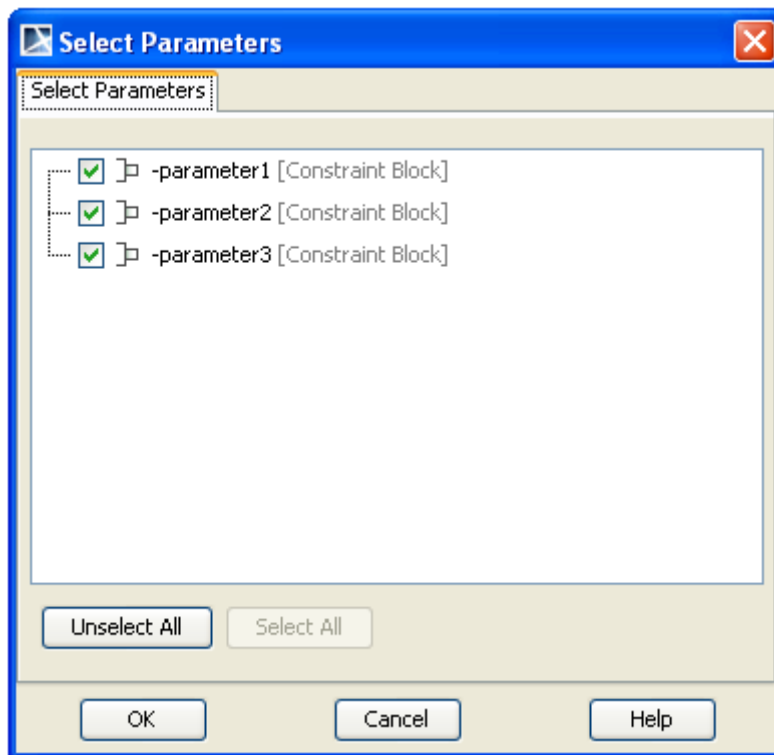

Figure 126 -- Select Parameters Dialog
2. The **Select Parameters** dialog will open and the constraint parameter(s) owned by the type of the constraint property will be listed in the dialog (Figure 126).